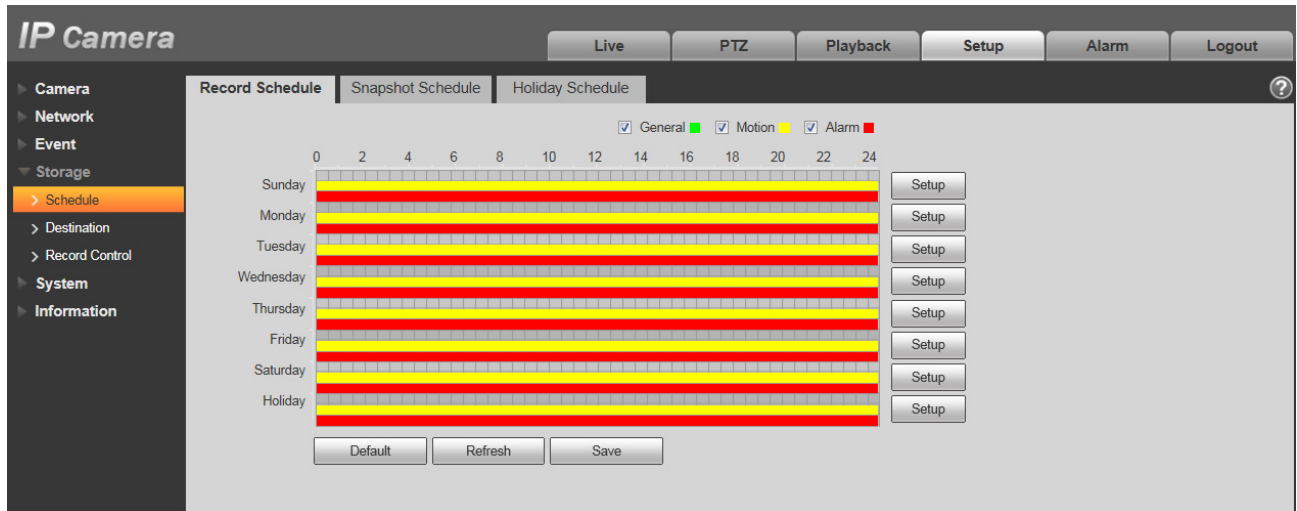

Figure 5-91
Step 3. Click on OK, return to record schedule interface. See Figure 5-91.